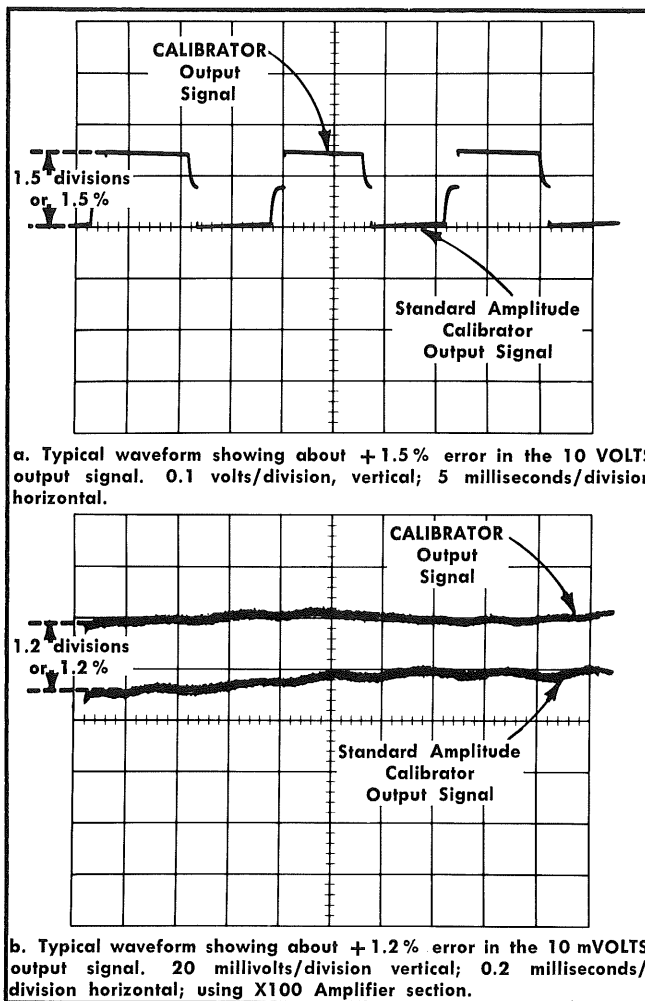

Fig. 11. Waveform showing a difference between Standard Amplitude Calibrator output signal and Type 561A CALIBRATOR output signal.
- e. Difference between the Standard Amplitude Calibrator output signal and the Type 561A CALIBRATOR output signal will be shown as a display on the test oscilloscope similar to Fig. 11. Table II shows maximum allowable display for 3%